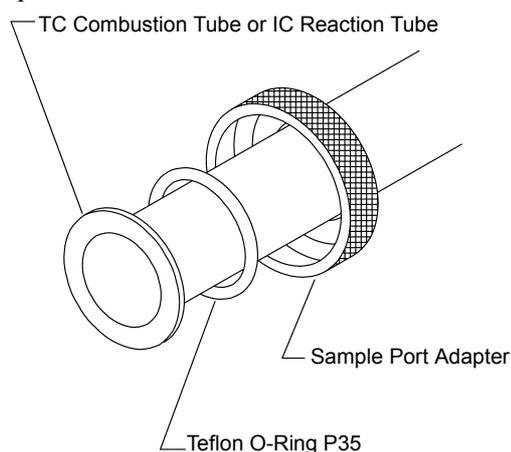

Figure 5.8 • Installing the O-Ring
2. Place the white Teflon O-ring P35 onto the TC combustion tube or IC reaction tube. Place the sample port adapter over the white O-ring as shown in “Figure 5.8 • Installing the O-Ring”. Gently insert the tapered end of the combustion or reaction tube into the appropriate furnace.